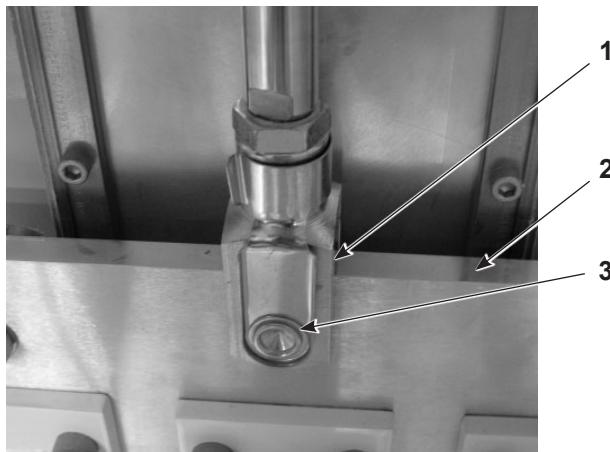

Figure 8-7 Lift Cylinder Clevis Pin
2. See Figure 8-7. Unclip the clevis pin (3) from the clevis (1) and pull the pin out of the clevis and carriage plate (2). Do not lose the pin, as you will need it to install the new cylinder.